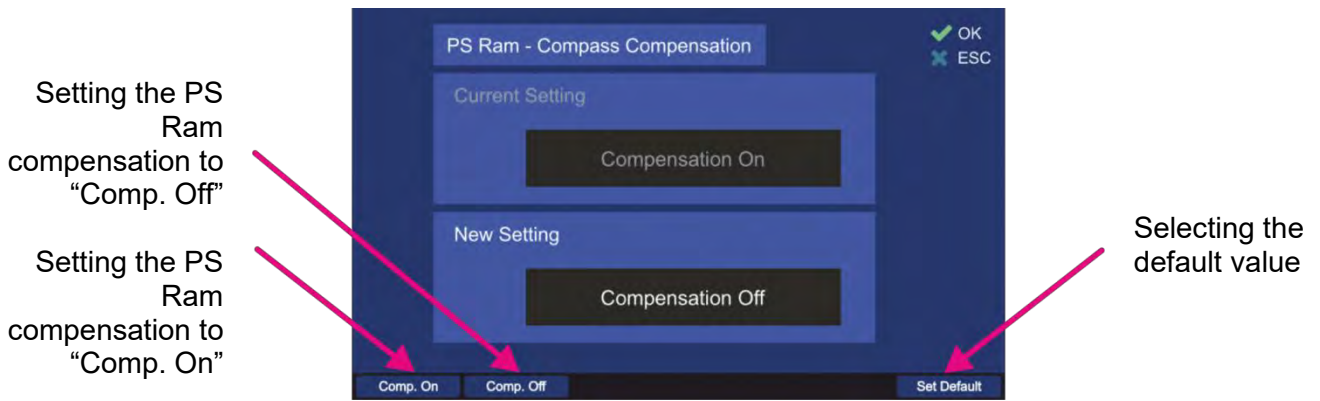

Figure 105. PS Ram compensation dialog
- Choose the new setting using one of the hotkeys (s. Figure 105), which will then appear in the “New Setting” field.